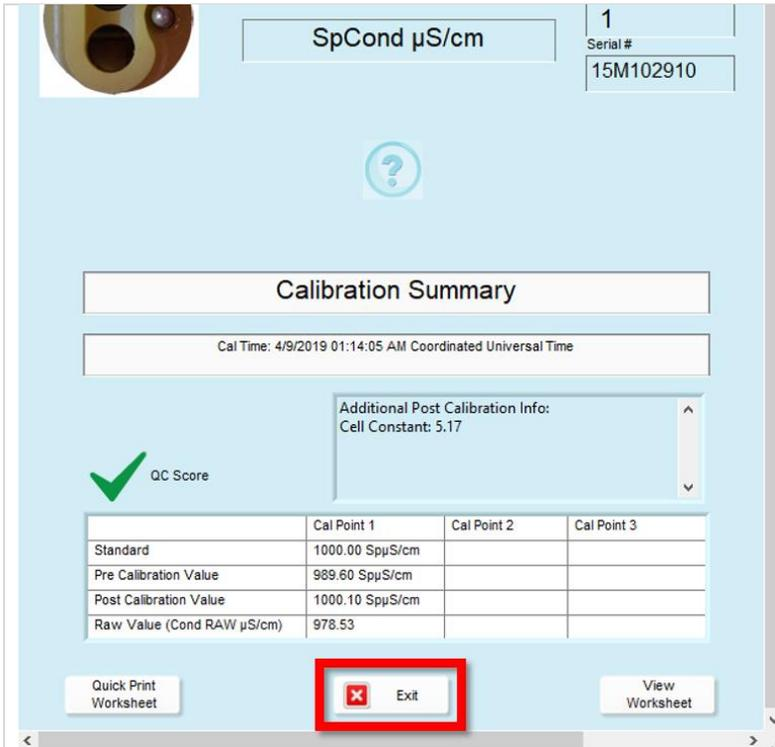

Figure 100. KorEXO Conductivity Calibration Summary
**STEP 4** | View the **Calibration Summary** for **Cal Point 1** (Figure 100) and compare the results to Section 5.4.2.10 to determine if the calibration was successful. The QC score informs the pass/fail status for the field calibration. A passing calibration results in a green checkmark as shown in Figure 100 or a yellow caution sign.
Click **“Exit”** to return to the sensor Calibration Menu (in red in Figure 100).